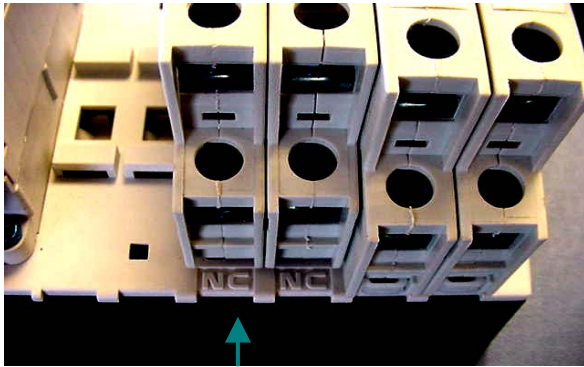

Figure 3
- Check for the lettering on the base. “NO” should be visible if the power pole is assembled as normally open, and “NC” should be visible if it is assembled as normally closed (see Figure 3).